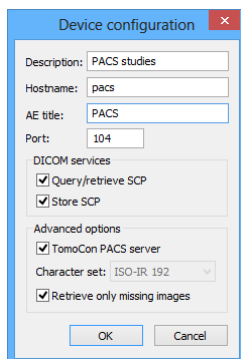

Figure 84 – Device configuration dialog
- To add a new DICOM device as a separate item, click **Add device** button to display the **Device configuration** dialog (Figure 84). Fill in the fields and click **OK** to confirm.
- To add a new DICOM device into a previously defined group, select the group in the list and click **Add device**. The **Device configuration** dialog (Figure 84) is displayed. Fill in the fields and click **OK** to confirm.
- To modify a group or a DICOM device, click **Configure...**. The **Device configuration** dialog is displayed, where the information concerning a group or device can be modified (see Figure 84).